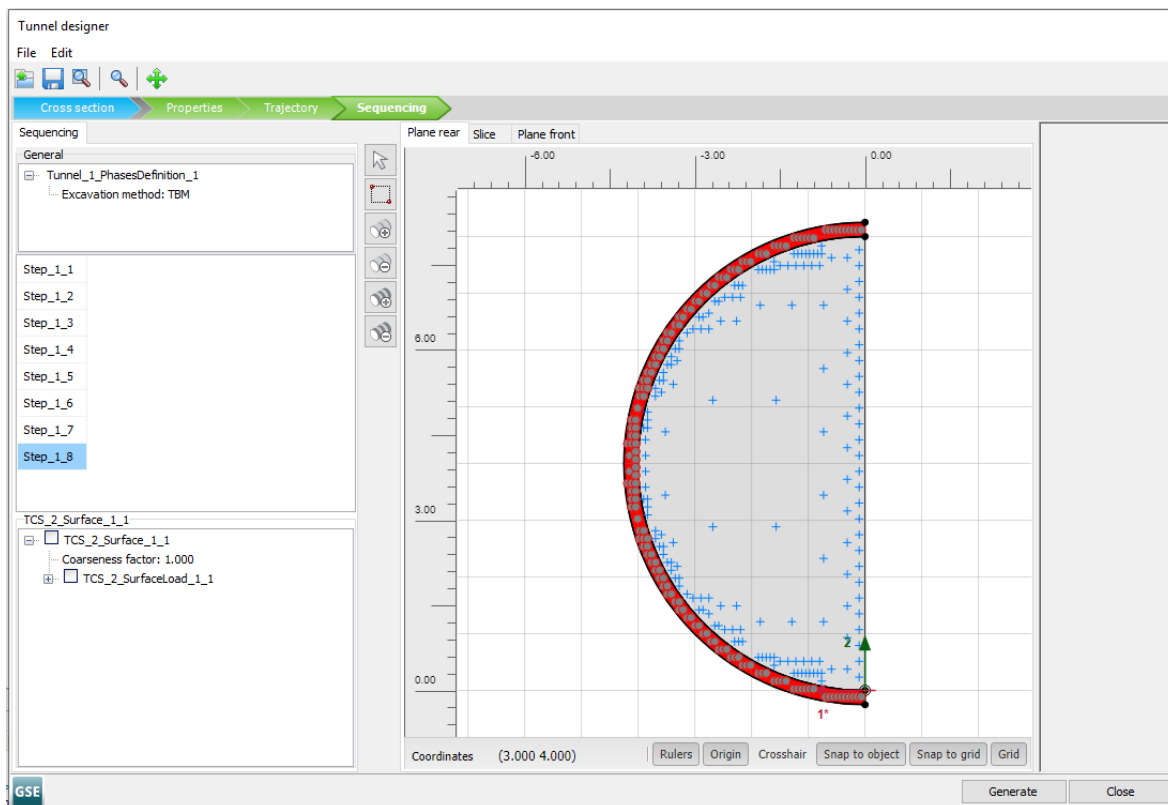

Figure 76: Plane rear tabsheet in the **Tunnel designer** Step_1_8
- In the **Selection explorer**, deactivate the surface load corresponding to the thrusting jacks (Figure 76 (on page 103)).